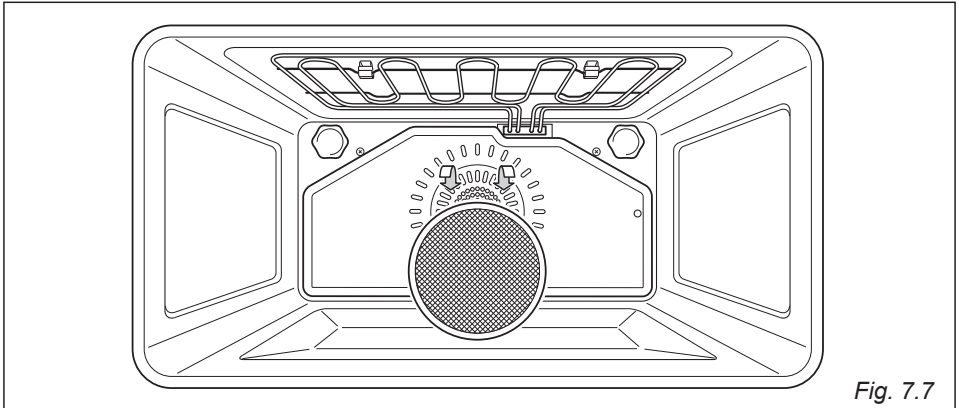

Fig. 7.7
- A special screen can be fitted at the back of the oven to catch grease particles, mainly when meat is being roasted (fig. 7.7).
- Slide in the grease filter on the back of the oven as in fig. 7.7.